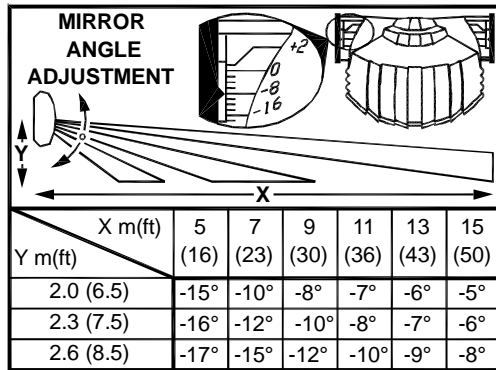

Figure 3: Mirror Alignment
For the best performance, the mirror must be adjusted vertically for the maximum desired detection range (distance) and mounting height. The angle adjust markings are located on both sides of the mirror (see *Figure 3*).
- Use *Figure 3* to identify the correct vertical angle based on mounting height (Y), mirror type, and maximum range (X).